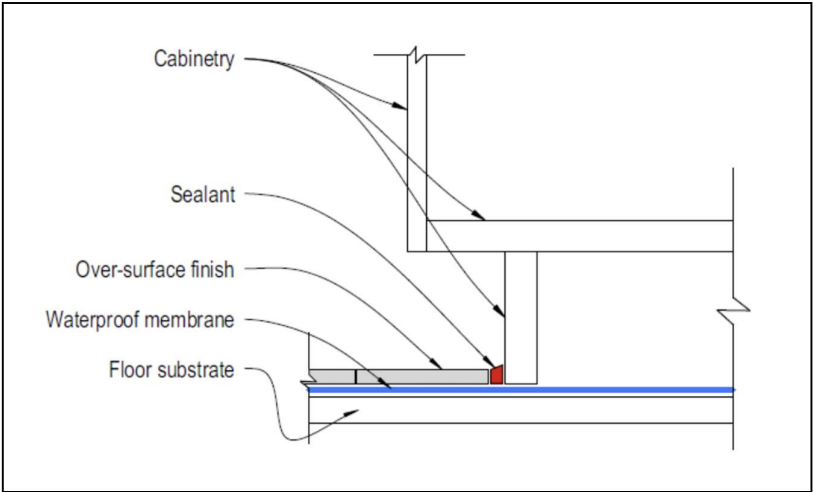

Figure 15: Waterproof membrane system installed before cabinetry
- ✓ Figure 15: Waterproof membrane system installed before cabinetry